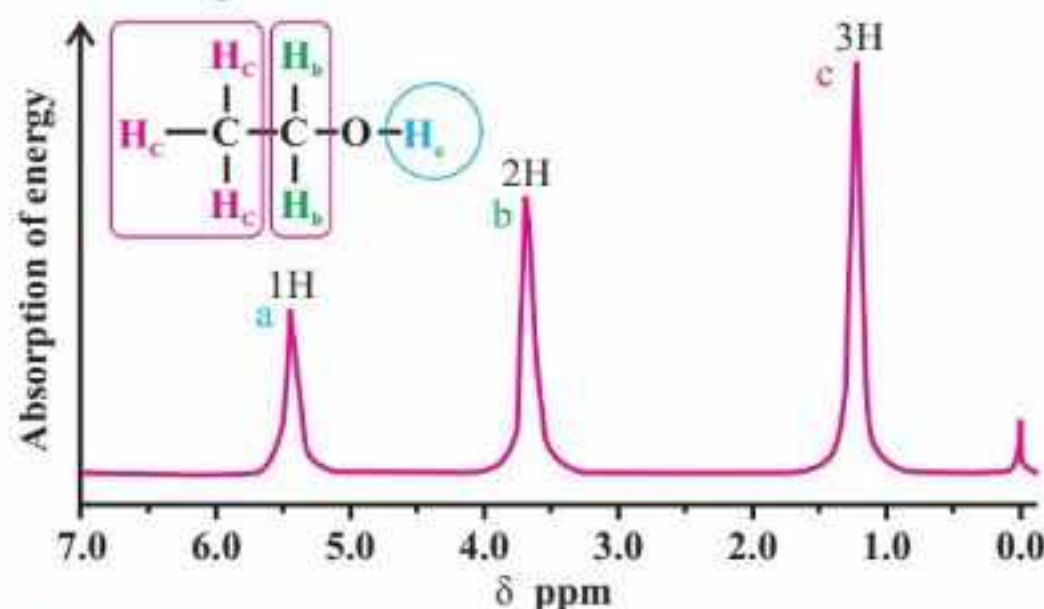

Figure 30.4 Low-resolution ¹H NMR spectrum of ethanol
Low-resolution ^1H NMR spectrum of ethanol ($\text{CH}_3\text{CH}_2\text{OH}$) has been illustrated in **Figure 30.4**. The spectrum has three peaks which shows that there are three different proton environments in ethanol molecule *i.e.*, the CH_3 protons, the CH_2 protons, and the OH proton.
Chemical shift of each peak corresponds to the type of chemical environment of protons giving rise to that peak. The type of proton environment can be identified by comparing the chemical shifts to standard values (**Table 30.1**). In the spectrum of ethanol (**Figure 30.4**), the peak at 5.4 ppm represents the presence of electrons in less electron density environment (OH). The peak having chemical shift 3.7 ppm can be identified as $-\text{CH}_2-$ next to oxygen while the signal at 1.2 ppm can be identified as methyl group ($-\text{CH}_3$ protons).
In the ^1H NMR spectrum of ethanol (**Figure 30.4**), peaks are labeled 1H, 2H and 3H to show relative peak areas in 1:2:3 ratio. This ratio matches with the number of protons in each environment ($-\text{OH}$ has 1, $-\text{CH}_2$ has 2 and $-\text{CH}_3$ has 3 protons). Analysis of the above spectrum shows that there are three kinds of chemical environments for protons, so three signals are observed. The intensity ratio shows that they are present in the ratio of 1:2:3. **The sum of number of each type of protons gives the total number of protons present in the molecule.** Hence, there are total 6 hydrogen ($1+2+3$) atoms in an ethanol molecule.